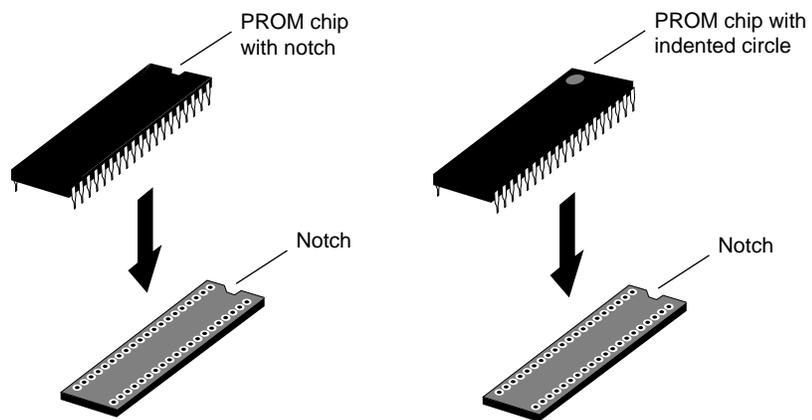

Figure 1-15 Lining Up the PROM Chip
- Grasp the new PROM chip. Orient the PROM above the socket on the system board so the end with the semicircular notch or small, indented circle on the PROM chip lines up with the notch in the socket. (See Figure 1-15.)